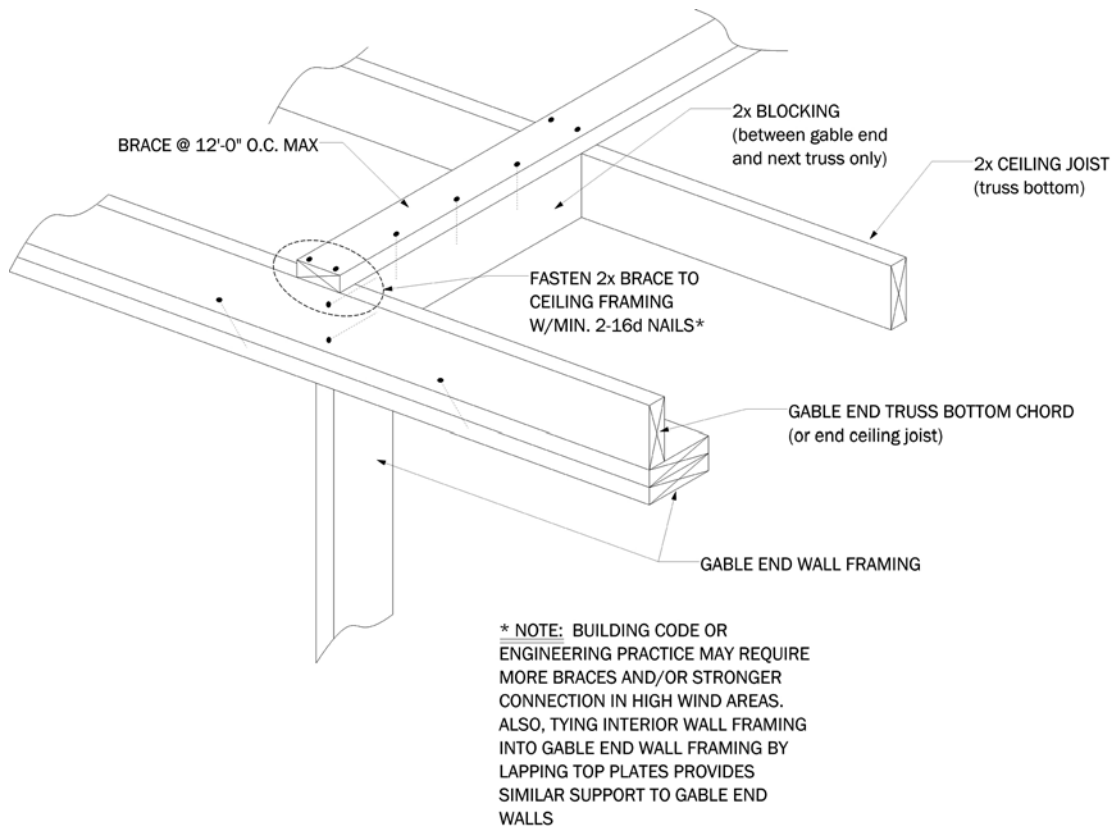

Figure 1 – Example of a Gable End Wall Brace (number of braces required varies)
1. Use gable end wall bracing in all wind zones, not just in hurricane-prone regions (see Figure 1).
9. When applying brick veneer to a light-frame home, use gable end braces or balloon framed gable ends as shown in Figures 1 and 2 to ensure that the wall is able to support earthquake forces from heavy veneer and ensure that veneer ties are in compliance with code, including preferable use of screw or ring-shank galvanized nails to fasten brick ties to framing.